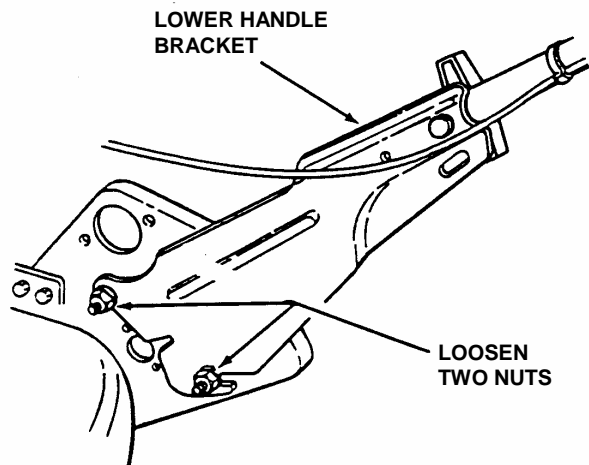
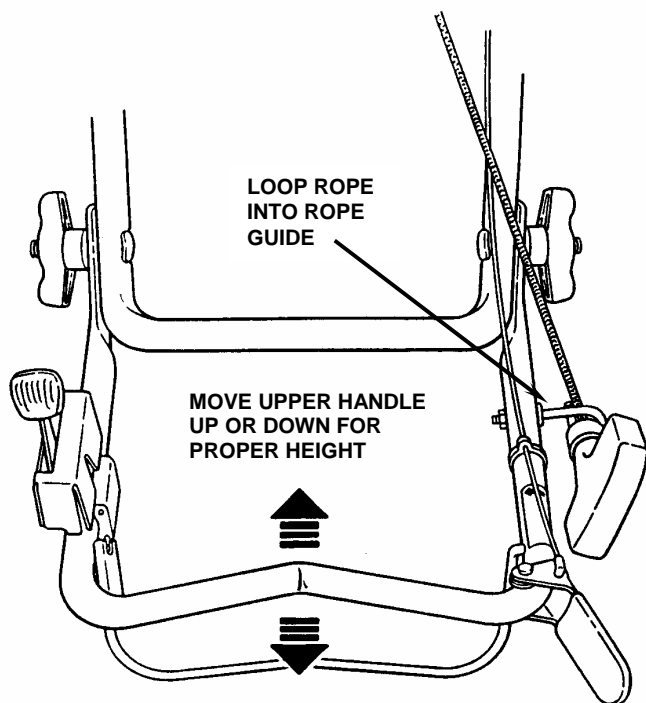

FIGURE 4
FIGURE 5
**STEP 5:** Handle height is adjustable for different height of operators. Loosen the two nuts on the inside of each of the lower handles. See Figure 4. Move the handle up or down to the desired height.. Retighten all nuts securely after adjustment. Pull blade control against upper handle, pull rope start handle and loop into rope guide. See Figure 5.